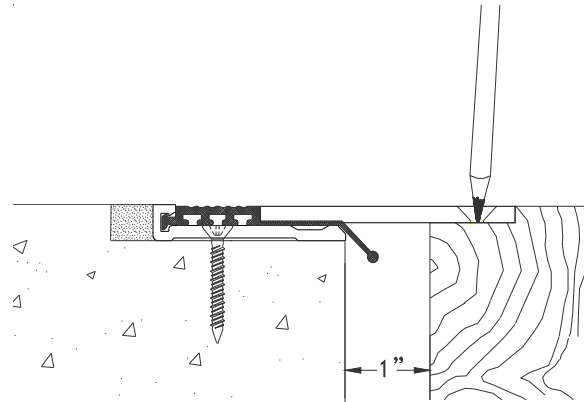

Figure 9
STEP 11. Select the cover plate. Place the cover plate into its installed position over the void. Ensure that the cover plate is level and properly aligned. Using the cover plate as a template, mark the locations for the fasteners on the routed area of the wooden floor (see Figure 9). Remove the cover plate from its installed position. Using the carbide bit provided by the factory, drill pilot holes for the fasteners into the floor at the marked locations. Clean away all refuse from the installation area.